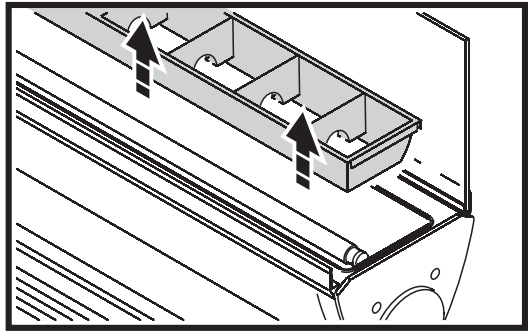

Figure 13: Removing the reflector
3. See Figure 13. Remove the reflector by lifting it out of the tube module housing.